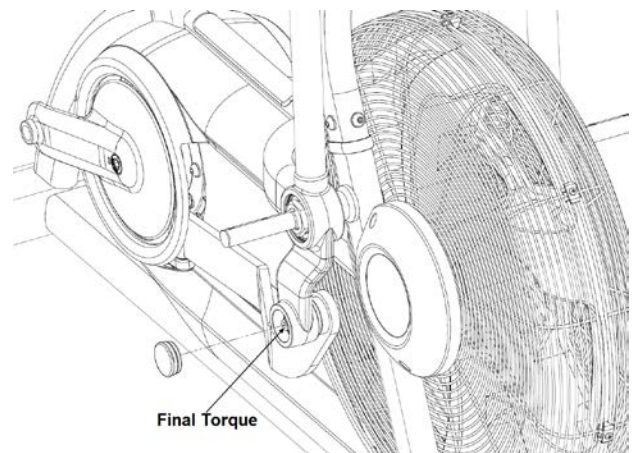

Fig. 11
10. Lock the grip arms in place (Fig. 11) by threading the large jam nut onto each pivot shaft and applying the corresponding final torque to each nut.